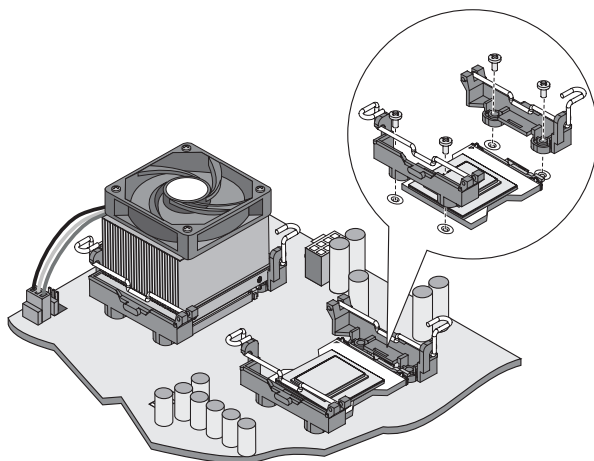

Figure 2-17: Mounting heatsink brackets
4. Repeat the process to mount the other bracket. Refer to Figure 2-17.